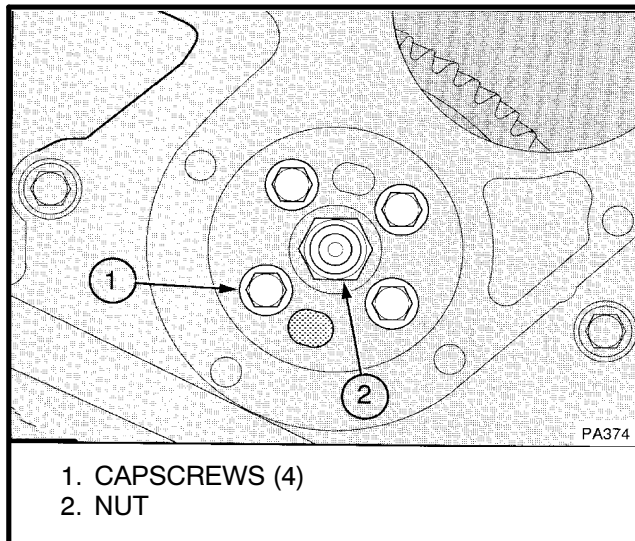

FIGURE 107. INJECTION PUMP HUB
See FIGURE 107. To remove the fuel injection pump from the engine it is only necessary to remove the four capscrews (1) which secure the fuel pump gear to the hub.